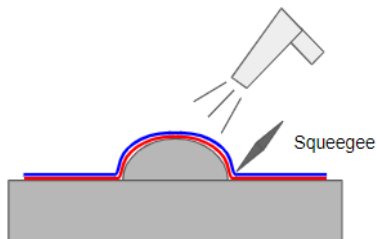

Fig.12
- 3) Press the vinyl down hard around the rivet using a plastic squeegee and a hot air gun. The applied temperature should be between 45 and 60°C. *Fig.12*